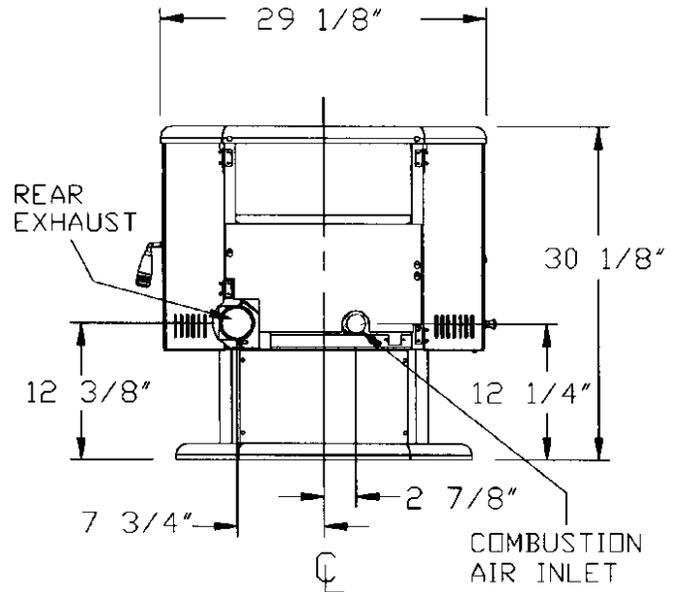
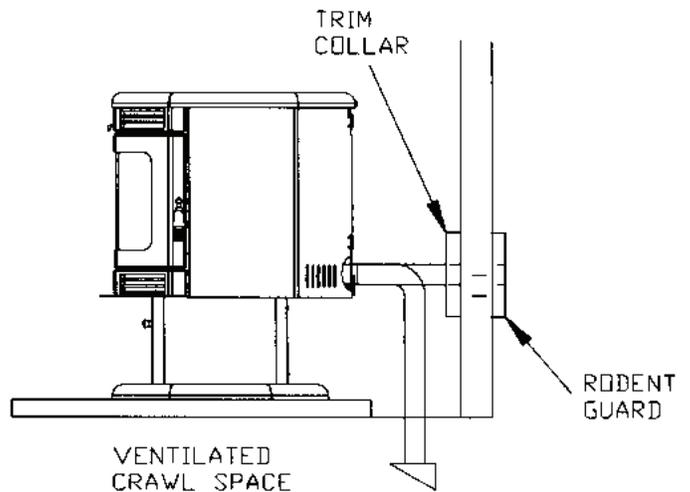

FIGURE 5
FIGURE 7
For a mobile home installation the stove must be connected to an outside source of combustion air. A 2" inside diameter metallic pipe, either flexible or rigid, may be attached to the inlet at the stove's rear (refer to figures 5 & 6). A rodent guard (minimum ¼" wire mesh)/wind hood must be used at the terminus (refer to figure 7). All connections must be secured and airtight by either using the appropriately sized hose clamp and/or UL-181-AP foil tape.
2. Locate position of hole in wall; directly behind stove exhaust vent (refer to figure 5).